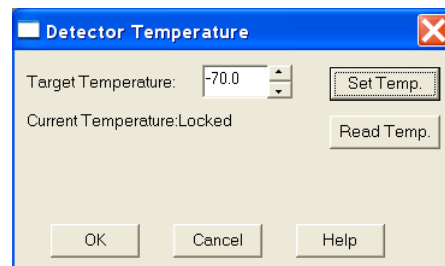

Figure 20. Temperature dialog
1. Open the WinView/32 Setup menu and click on **Detector Temperature**. This will cause the Temperature dialog to appear as shown in Figure 20.